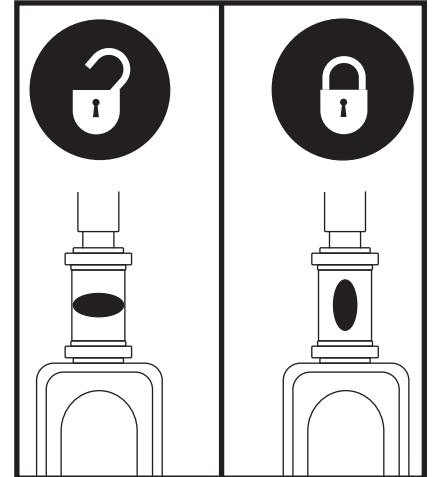

Figure 19. Tiller Lock Knob
1. Remove the key from the key switch and then lock the tiller in the straight ahead position by pushing the tiller lock knob in and turning it clockwise 90°. See **figure 19**. The front wheel must face forward in order to lock the tiller.
6. Unlock the tiller by turning the tiller lock knob 90° counterclockwise. **See figure 19.**